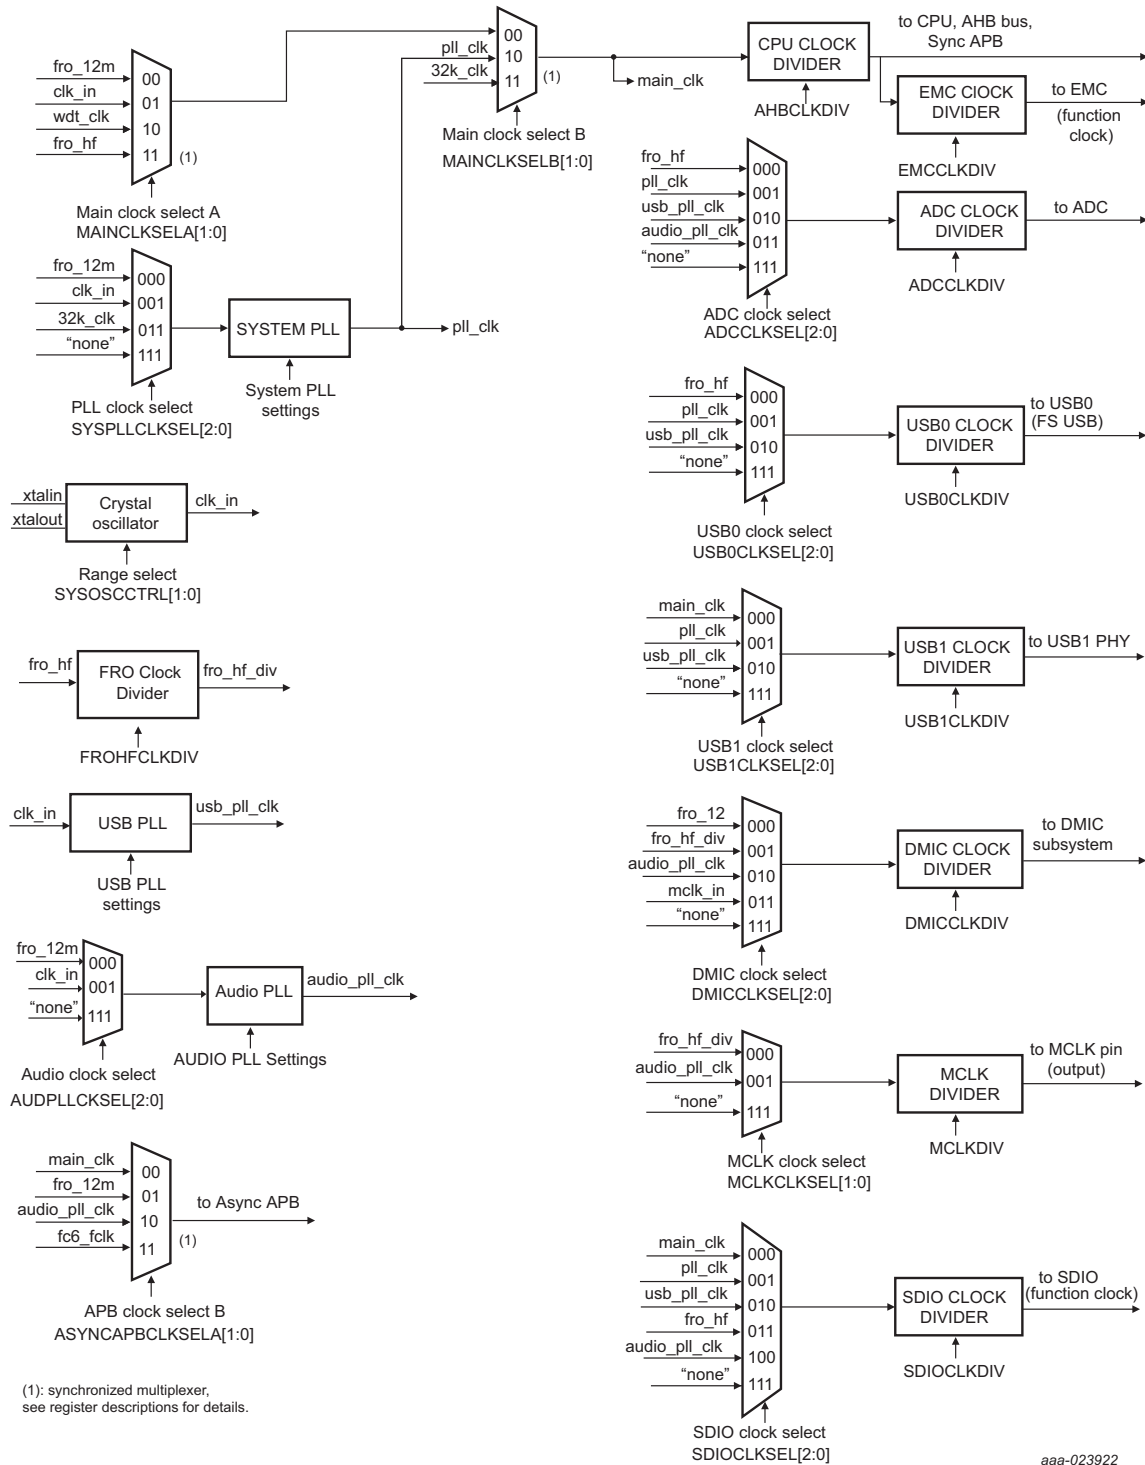
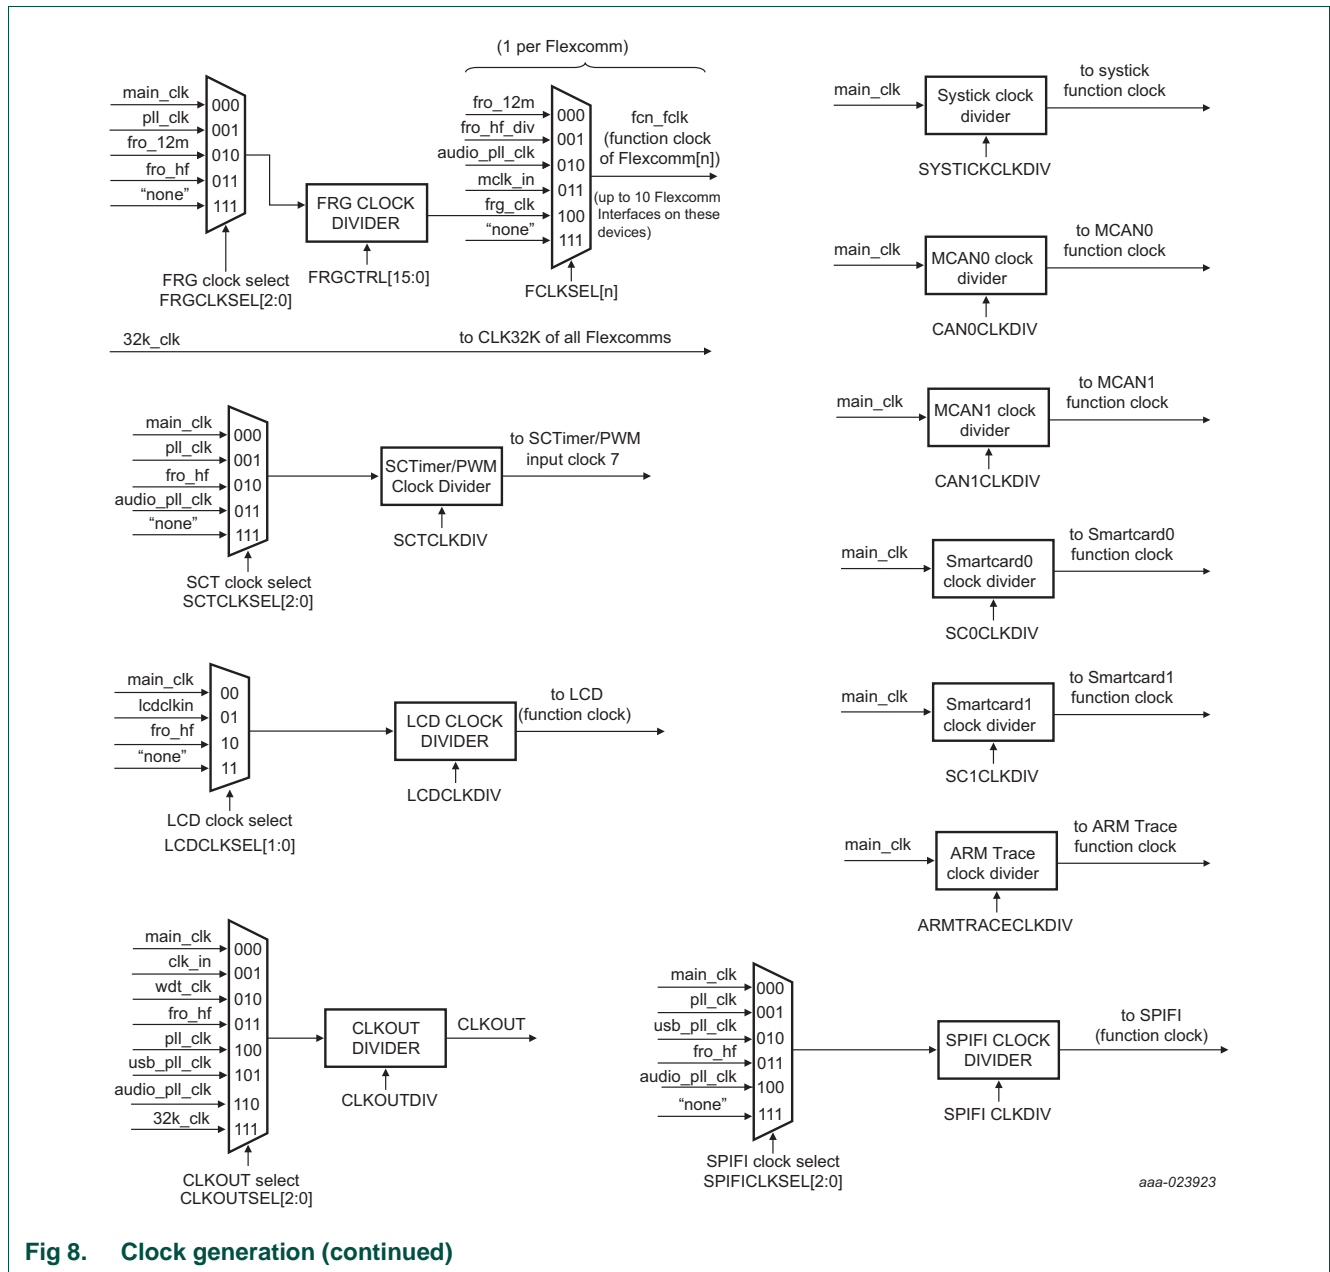

Fig 7. Clock generation
Fig 8. Clock generation (continued)
The system control block facilitates the clock generation. Many clocking variations are possible. Figure 7 and Figure 8 give an overview of potential clock options. The maximum clock frequency is 180 MHz.
**Remark:** The indicated clock multiplexers shown in Figure 7 are synchronized. In order to operate, the currently selected clock must be running, and the clock to be switched to must also be running. This is so that the multiplexer can gracefully switch between the two clocks without glitches. Other clock multiplexers are not synchronized. The output divider can be stopped and restarted gracefully during switching if a glitch-free output is needed.
audio_pll_clk	The output of the Audio PLL. The Audio PLL and its source selection are shown in <a href="#">Figure 7 “Clock generation”</a> .
fcn_fclk	The function clock of Flexcomm Interfaces. See <a href="#">Figure 8 “Clock generation (continued)”</a> .
frg_clk	The output of the Fractional Rate Generator. The FRG and its source selection are shown in <a href="#">Figure 7</a> .
lcdclk_in	The clock input to the LCD display controller. See <a href="#">Figure 8 “Clock generation (continued)”</a> .
main_clk	The main clock used by the CPU and AHB bus, and potentially many others. The main clock and its source selection are shown in <a href="#">Figure 7</a> .
pll_clk	The output of the System PLL. The System PLL and its source selection are shown in <a href="#">Figure 7 “Clock generation”</a> .
usb_pll_clk	The output of the USB PLL. The USB PLL and its source selection are shown in <a href="#">Figure 7 “Clock generation”</a> .